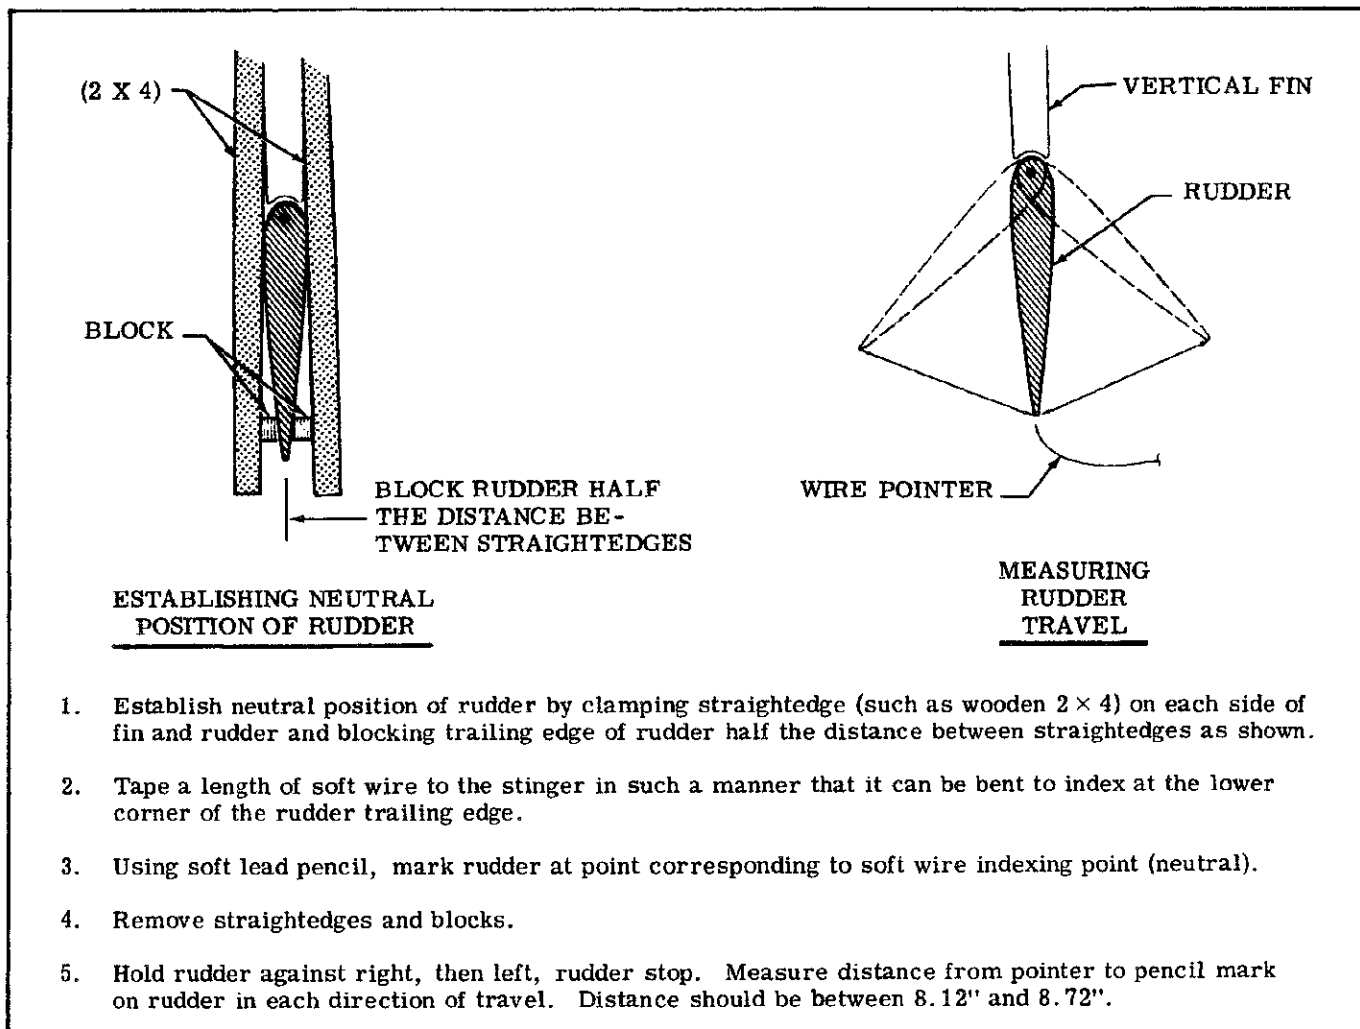

Figure 10-4. Checking Rudder Travel
a. Adjust travel stop bolts (index 8, figure 10-1) to attain correct rudder travel as specified in figure 1-1. Figure 10-4 illustrates correct travel and one method of checking.
b. **THRU AIRCRAFT SERIALS 18261328 AND A182-0136.** Remove rudder trim chain (10) by removing the lower screws from support bracket (7), using care not to drop washers (20). These washers are used as shims to adjust chain (10) tension by raising or lowering support bracket (7). Spring bracket (7) downward until chain (10) can be disengaged from sprockets (9 and 19).
c. **BEGINNING WITH AIRCRAFT SERIALS 182-61329 AND A182-0137.** Loosen adjustable idler sprocket (25) and disengage chain from sprockets (9 and 19).
d. Disconnect steering bungee adjustable rod end (26) from wiffletree (14).